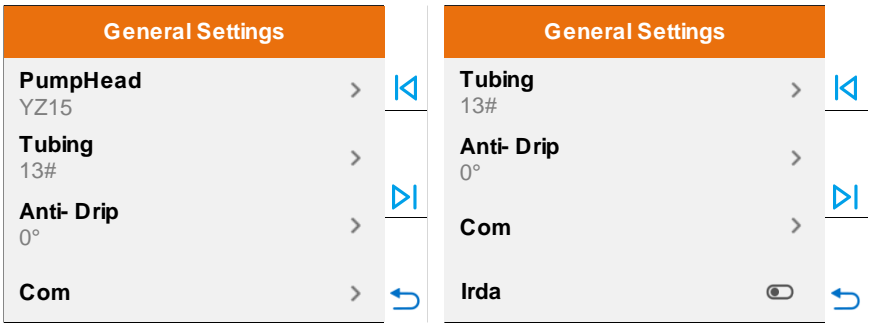

Figure 23 General Settings interface
**Setup:** To setup the general settings, use  view the menu, details as figure 23.